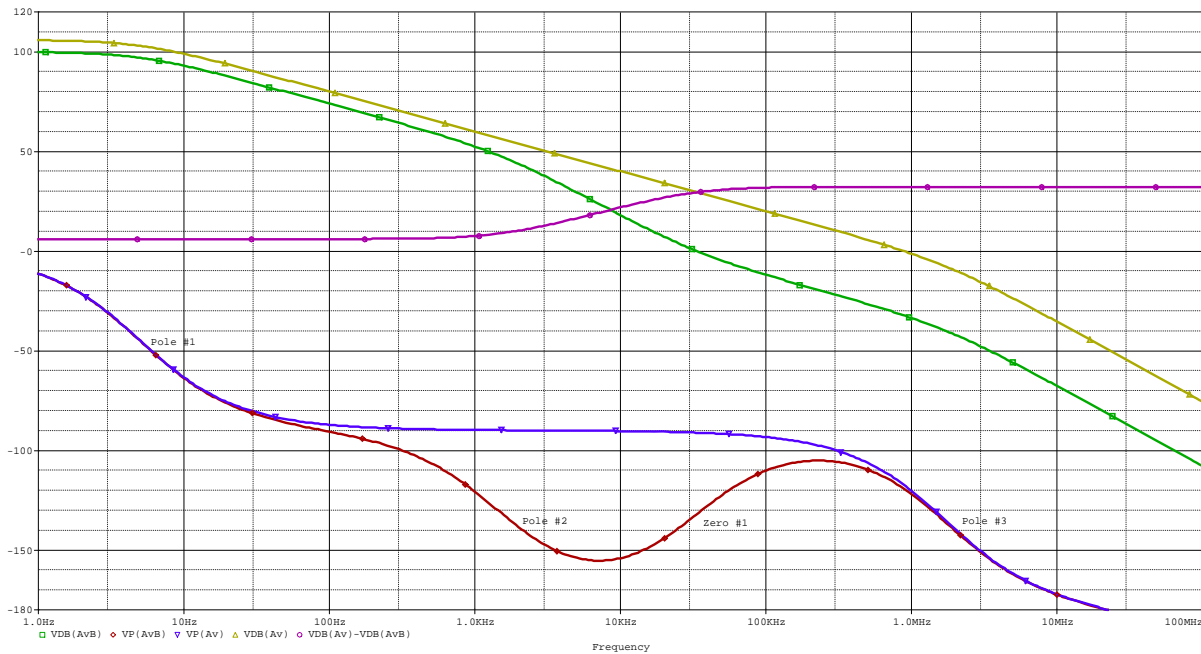

Figure 19. $\mu A741$ frequency response, gain of 2, $1\text{ M}\Omega$ with $C_f = 5\text{ pF}$, $C_{in} = 200\text{ pF}$
Let’s move on to poles and zeros. I’ve repeated the simulation above but I increased C_i to 200 pF to separate the poles from the zero in the loop gain. Recall that a pole (zero) causes a -90° (90°) phase shift with the pole (zero) located at -45° (45°). Looking at the phase of the loop gain (red trace) in Figure 19, it can be seen that there are poles at 5 Hz (pole #1), 1.7 kHz (pole #2), and 1.6 MHz (pole #3) and a zero at 30 kHz (zero #1). Poles #1 and #3 are
Because the noise gain is given by the reciprocal of β , it is the pole in the loop gain that causes the peaking in the noise gain and the zero in the loop gain that reduces this peak. Looking at Equations (28) and (29) you can see that in all cases, $f_{Z1} \geq f_{P2}$. As it turns out, the maximum value of the peak is given by $(1 + C_i/C_f)$ (32 dB in Figure 19).